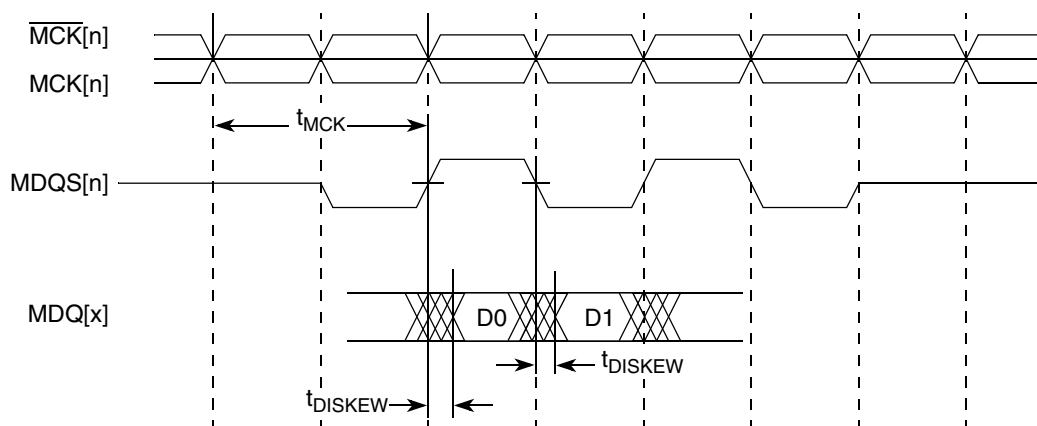

Figure 3. DDR SDRAM Input Timing Diagram (t_{DISKEW})
2. The amount of skew that can be tolerated from MDQS to a corresponding MDQ signal is called t_{DISKEW} . This can be determined by the following equation: $t_{DISKEW} = \pm (T/4 - \text{abs}(t_{CISKEW}))$, where T is the clock period and $\text{abs}(t_{CISKEW})$ is the absolute value of t_{CISKEW} . See Figure 3.
Figure 3 shows the DDR SDRAM input timing diagram.